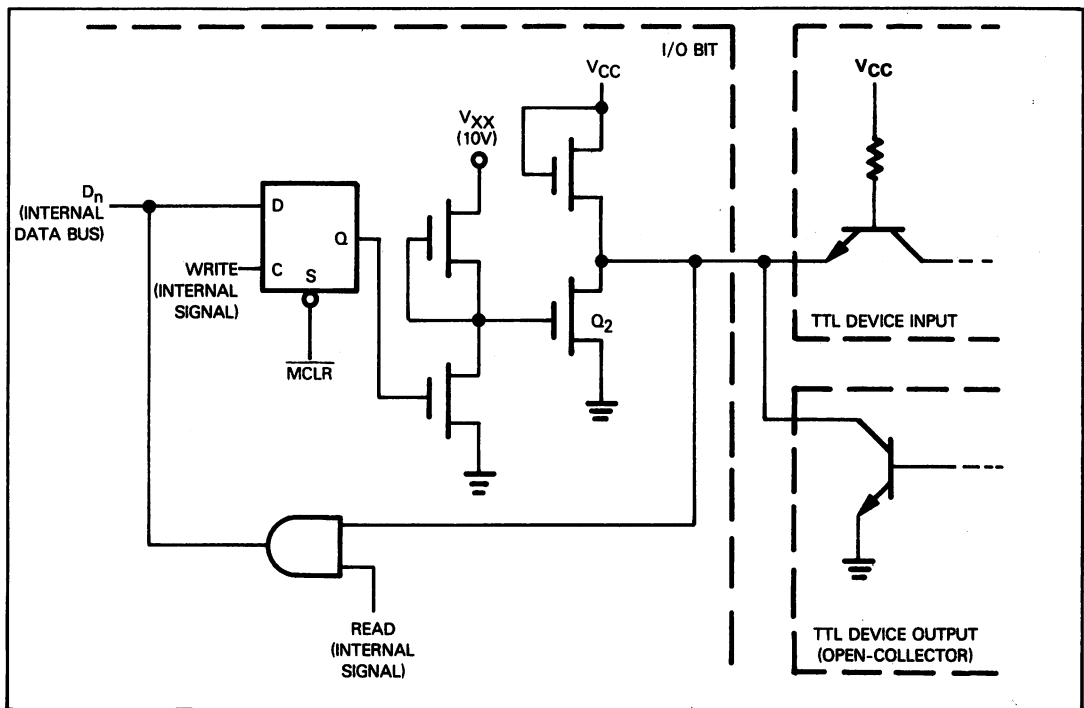

Figure 15-3. 1650 Series Microcomputer Bidirectional I/O Port Pin Logic
**Those 1650 series microcomputer I/O pins which are defined as bidirectional are, in reality, pseudo-bidirectional. Pin logic is illustrated in Figure 15-3.** The logic illustrated in this figure has become standard pseudo-bidirectional pin logic for one-chip microcomputers. The 3870 and 8048 have similar logic.
Although you can run any 1650 series one-chip microcomputer with a single +5V power supply, it is sometimes desirable to have **an additional +10V power supply** connected to the  $V_{XX}$  input. As illustrated in Figure 15-3, this power supply **allows the bidirectional I/O port pins to sink more current**, typically to drive higher current loads such as LED displays.